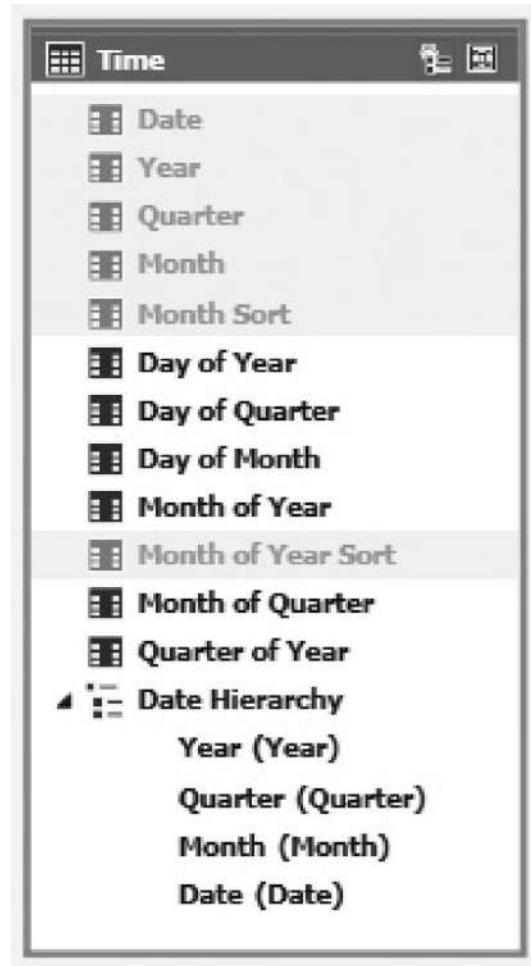

Figure 9-21 The Time table with the Date hierarchy
10. Right-click the Month of Year Sort field and select Hide from Client Tools in the context menu. When sized to show all fields, the Time table appears as shown in Figure 9-21 .